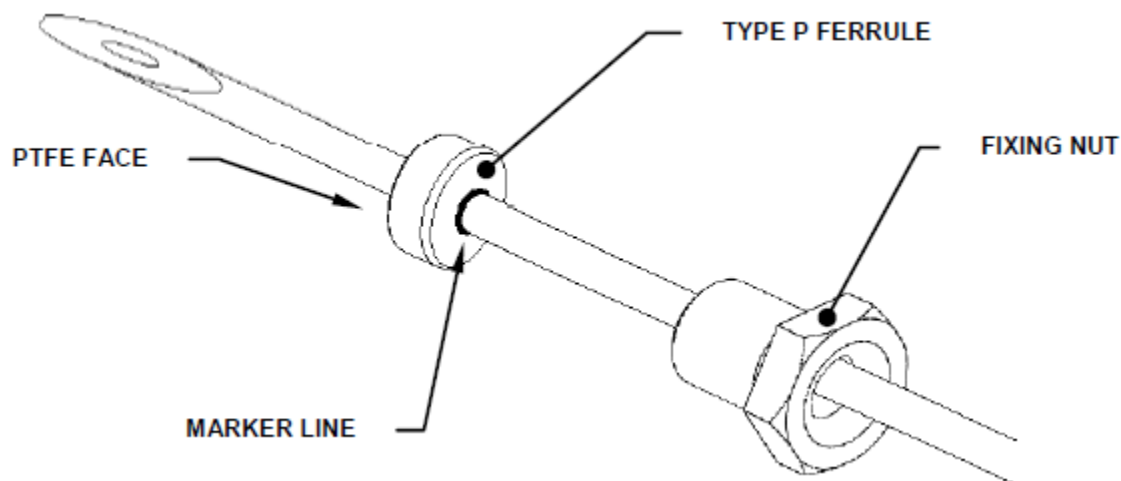

Figure U-43: Threading the Tube Through the Fixing Nut
11. Thread the PTFE Tube through a Fixing Nut. With a scalpel, cut the tubing to form a point (approximately 10 to 15mm long). Thread the cut (pointed) end of the tube through a Type P Ferrule (43000640) ensuring that the Ferrule is orientated as shown with the PTFE face pointing out (Figure U-43).